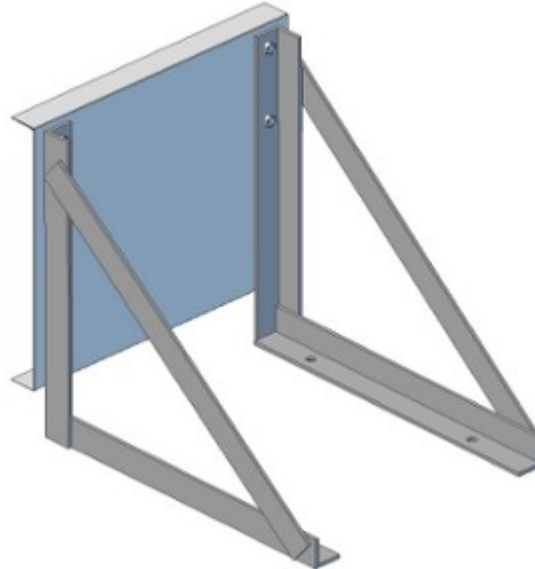

Figure 3 – As-installed illustrative view of Left and Right Stepbox Brackets against the main beam's exterior face
- 5) Butt the rear face of the Left Bracket's vertical angle piece against the main beam's exterior vertical face, and align the Bracket's vertical angle piece holes with the left-side pair of holes within the marked boundary span which you made in Step (4). Next, insert a supplied 5/8"-dia Grade 8 Hex Bolt through each aligned pair of holes. While keeping the Left Bracket butted against the main beam's exterior face, access the interior face and slide a supplied Lock Washer along each Bolt shaft until butted against the interior face. Finally, hand-twist a supplied Nut onto each bolt.
- 6) Using your torque wrench and a hand wrench, fasten each Lock Washer, Nut and Bolt set configured in Step (5) to a torque rating of 60 lbs/1"
- 7) Repeat Steps (5) and (6) for the Right Bracket by using the right-side pair of holes within the marked boundary span to align with the Right Bracket's vertical angle piece holes. The completed results of Steps (5) and (6) should resemble the illustrative view depicted in Figure 3: